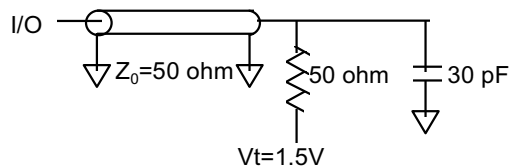

Fig.1 Output Load Equivalent
Output load	See Figures 1 and 2
- Test conditions as specified with the output loading as shown in Fig. 1 unless otherwise noted.
- Capacitance derating applies to capacitance different from the load capacitance shown in Fig. 1.